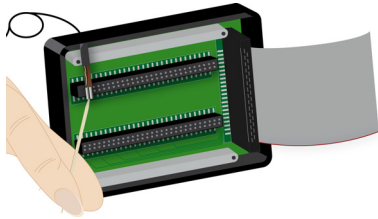

Figure 5-3. Removing the faulty electrode from the splitter box
- 5 Carefully withdraw the faulty electrode from the splitter box (see Figure 5-3). This is best done by taking a toothpick or small screwdriver, for instance, and carefully removing the front part of the electrode from the splitter.